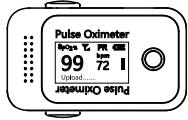
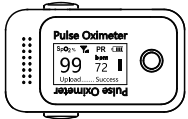
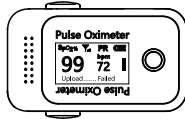

Figure 11
Figure 12
Figure 13
4. When the measurement is finished and the network is available, the upload procedure will be started automatically, as shown in **Figure11**. It will end with "Success" or "Failed," as shown in **Figure12** and **Figure13**. If the upload failed, the current measurement record will be saved automatically and re-uploaded next time.